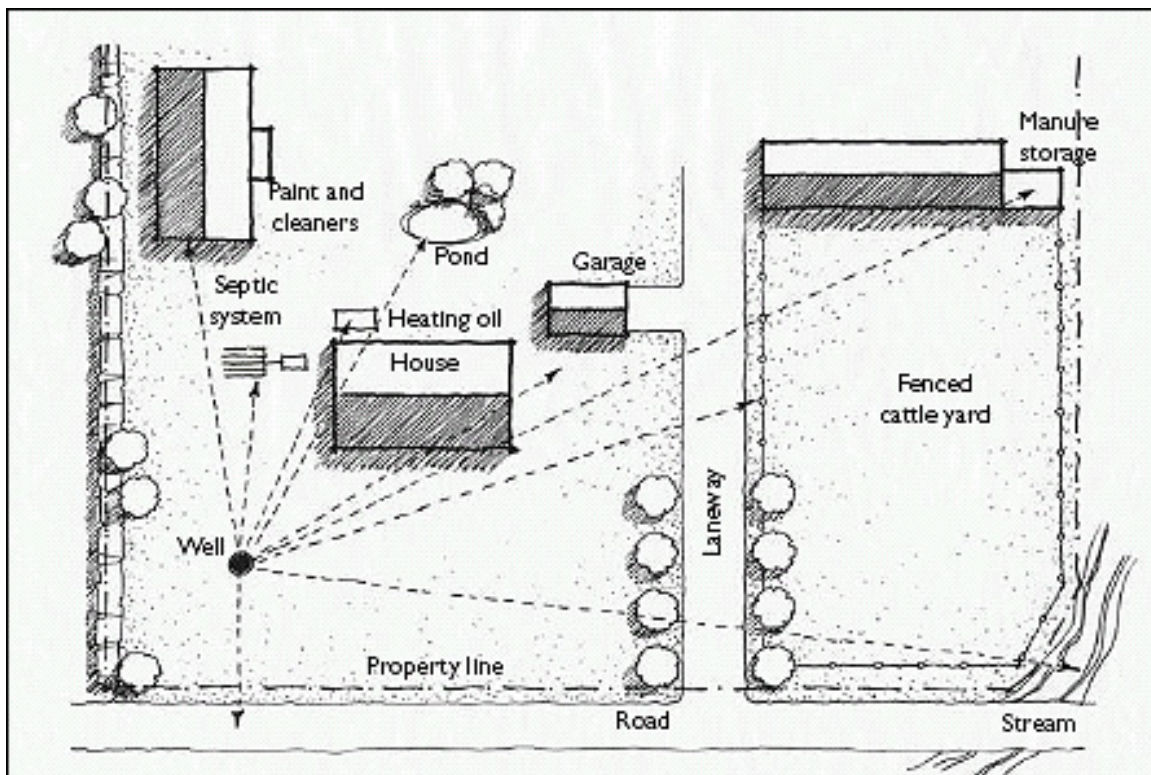

Figure 3: Well separation distances
**Location** — A well should be located at least 15 m (50 ft.) from any source of contamination if the casing is watertight to a depth of 6 m (20 ft.); otherwise, the separation distance should be at least 30 m (100 ft.). Sources of contamination include: septic systems, manure storages, fuel storages, agricultural fields (manure or fertilizer runoff), and roads (salt runoff). Wells should be located at least 15 m (50 ft.) from a body of water (see Figure 3).